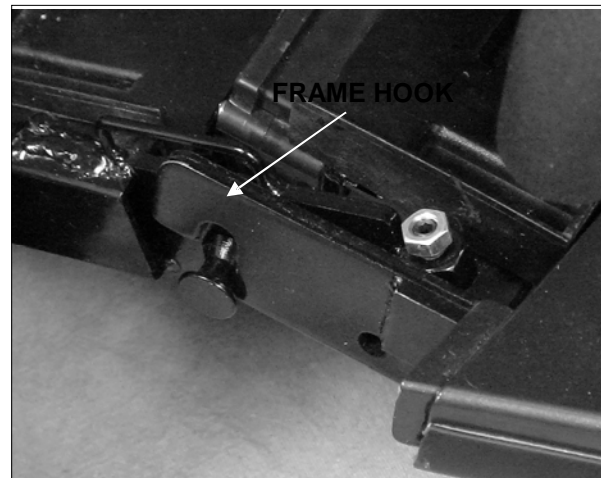

FIGURE 22. FRAME HOOK
3. Once the frame hooks are properly aligned (See figure 22), push down on the seat post to secure the frame together. You will hear and feel a positive “snap” sound to confirm that the front and rear frames are connected.